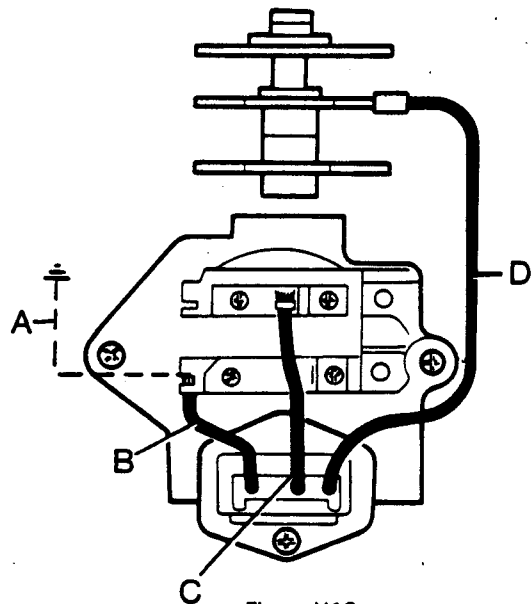

Figure H10
6. On Lucas alternators with the 8TRD regulator, connect a jumper wire from the green wire to ground as shown in Figure H10.